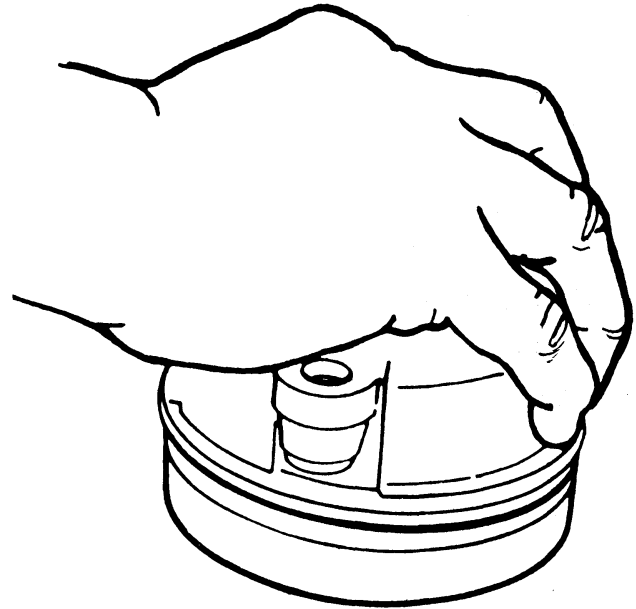

FIG. 15 Slamming the Housing Plate on a Surface to Remove Lower Plate and Belleville Spring
12. The lower plate and the Belleville spring will remain in the pump housing plate. To remove, place the pump housing plate on a flat surface. Raise slightly and slam the housing plate down flatly until the lower plate and the Belleville spring fall out. Discard the "O" ring seals (Fig. 15).